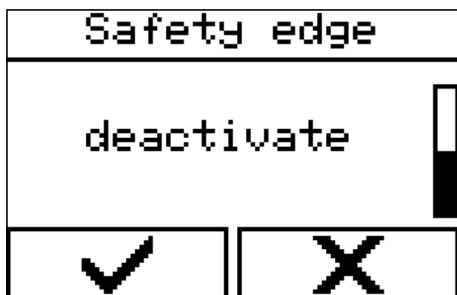

Fig. 104: Deactivating the safety edge
3. ➤ Select 'Deactivate safety edge' (Fig. 104).